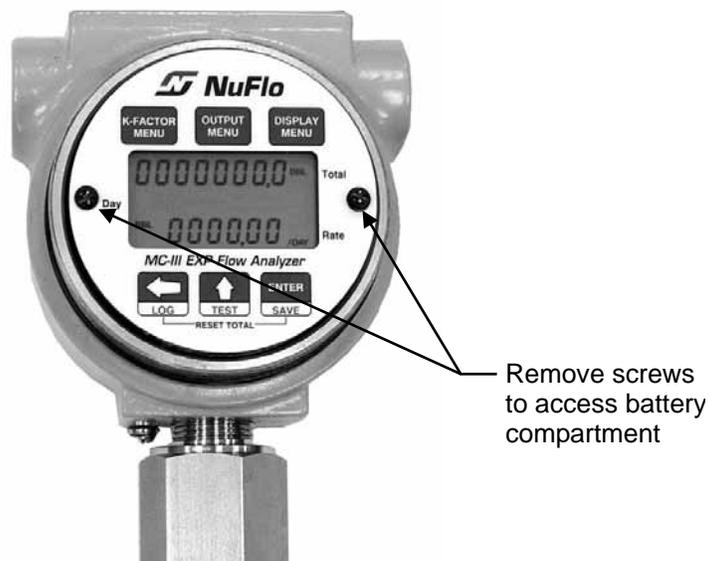

Figure 6.3—Removal of faceplate/keypad assembly
2. Using a small standard blade screwdriver, remove the two #4-40 × 7/8” screws located to the right and left side of the display (Figure 6.3, page 88).